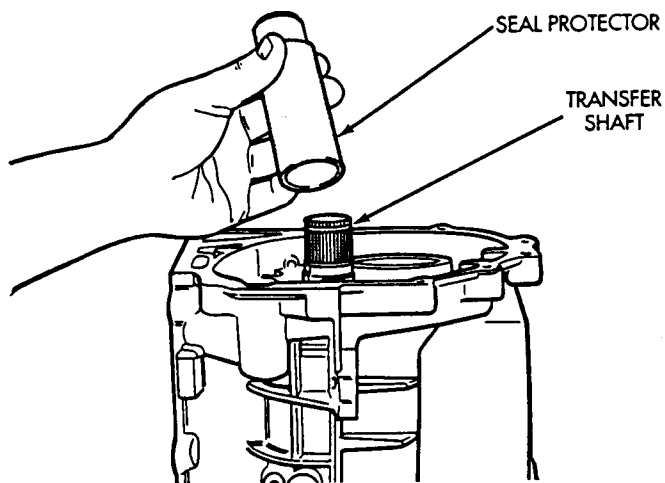

Fig. 25 Seal Protector Installation
(29) Install transfer shaft seal protector (special tool 6592) (Fig. 25). Apply thin film of gear oil to protector.